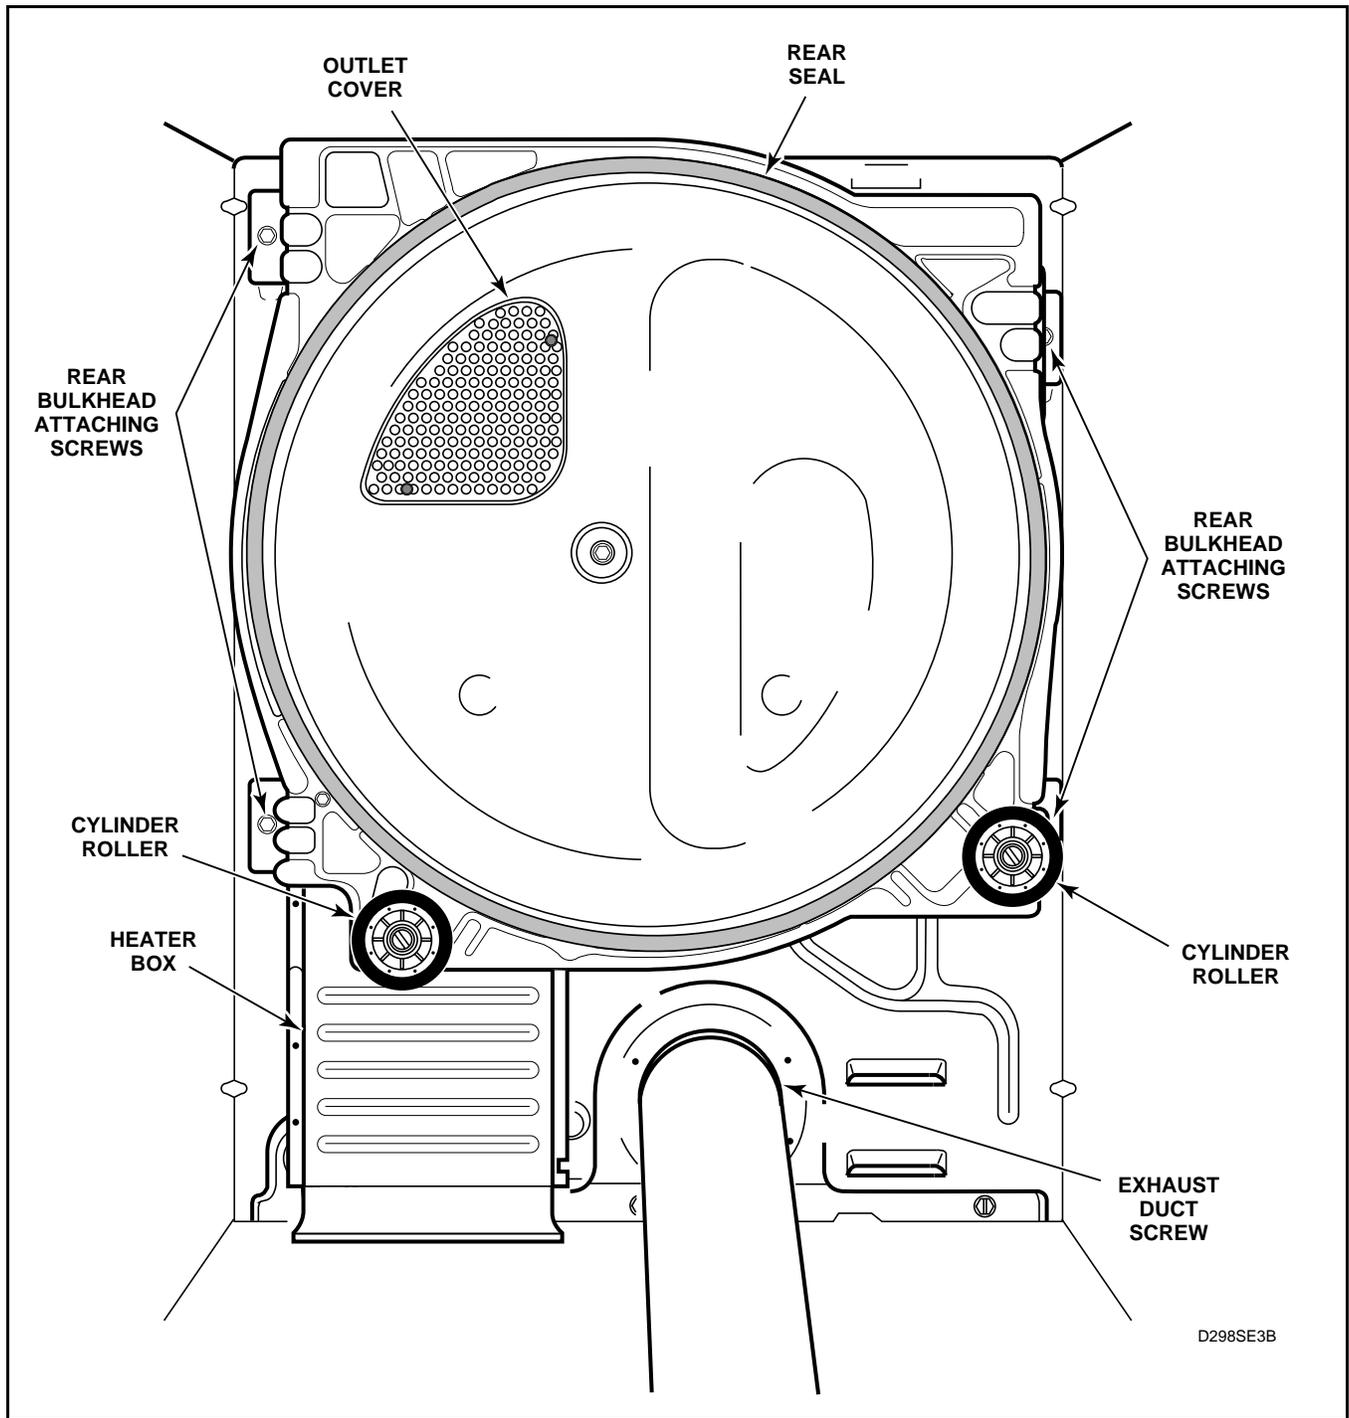

Figure 31
- a. Open door and remove two screws (if present) holding outlet cover to rear bulkhead. See *Figure 31*.
- (4.) While supporting bulkhead, remove the four screws holding rear bulkhead to dryer cabinet, then lift complete assembly out of dryer. See *Figure 31*.